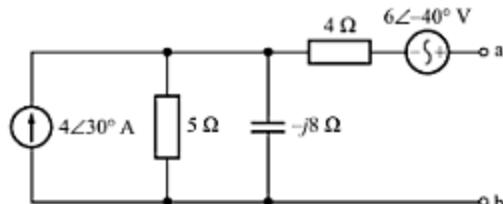

Fig. C-66
- C-97. Find  $Z_N$ , and  $I_N$  for the Norton's equivalent of the circuit shown in Fig. C-66.